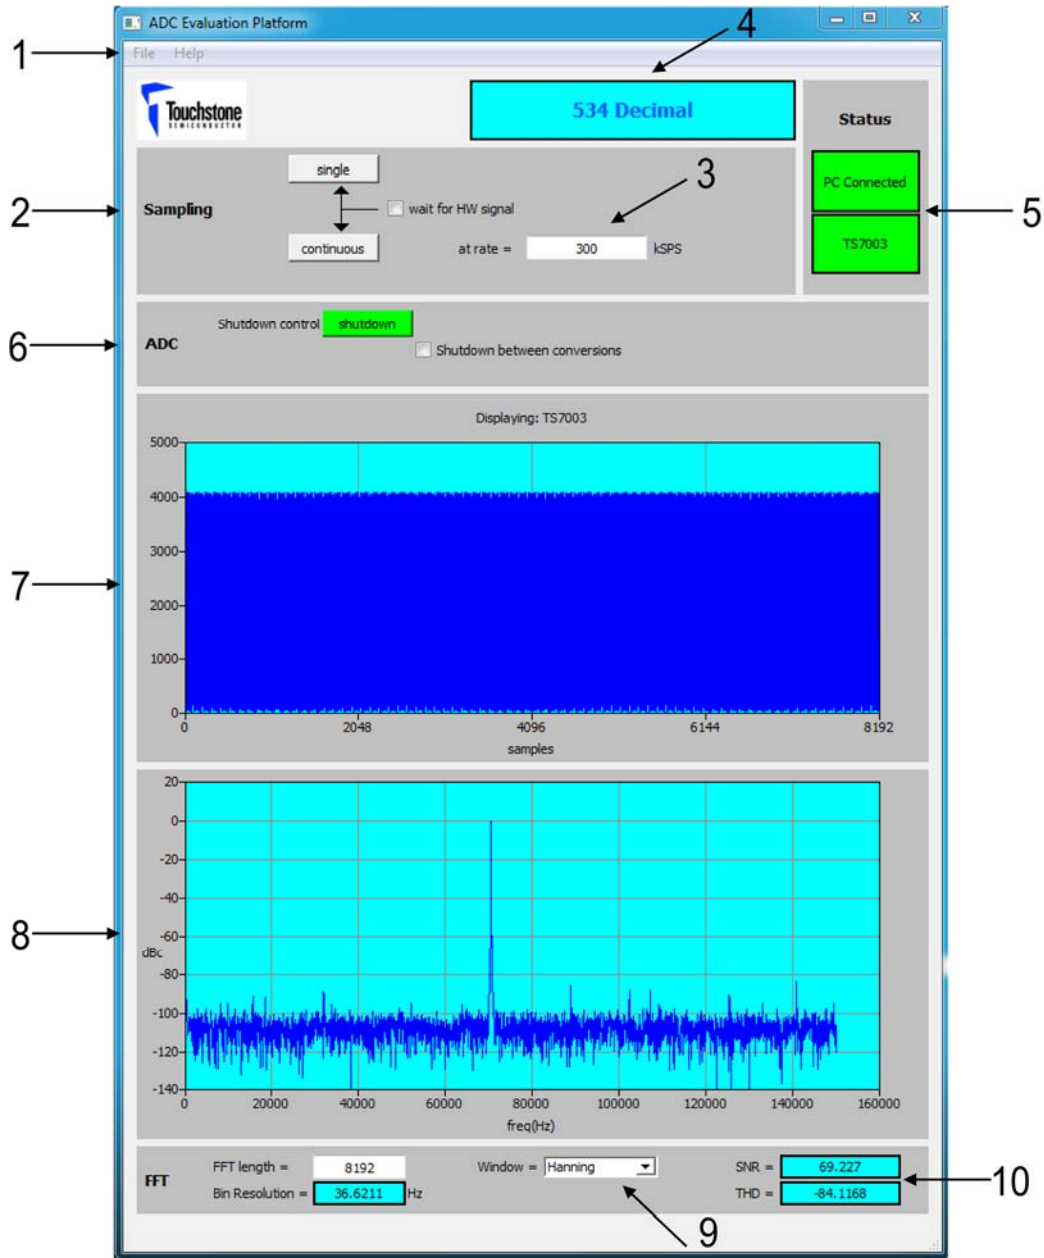

Figure 5. Evaluation Platform GUI Features
Depending on the ADC to be evaluated, the ADC section of the GUI labeled as number 6 in Figure 5 will change. Please refer to the ADC demo board manual for more information. Table 1 shows the ADCs currently available for evaluation.
The following outlines the various features available in the ADC evaluation platform GUI. Please refer to Figure 5 and note that each section of the GUI is labeled with a number from 1 to 10 corresponding to the following:
- If the Nano River Tech Viperboard and the ADC demo board have been connected correctly to the PC according to the instructions in the ADC demo board manual, the status boxes will be highlighted in green and will read "PC Connected" along with the part number of the ADC to be tested. If the ViperBoard or the ADC demo board is not connected, the boxes will be highlighted in red. In figure 5, the TS7003 is being evaluated.
- Depending on the ADC being evaluated, this section will change. In figure 5, the TS7003 is being evaluated. Since the TS7003 offers a shutdown pin, this section provides a button that can be selected to exercise this function. Please refer to the ADC demo board manual for more information.